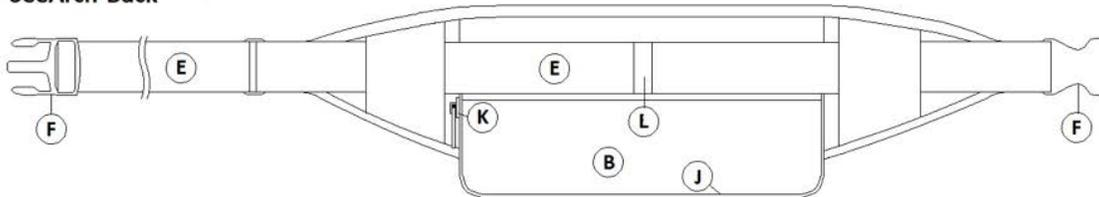

Figure 2
- a. Fully open the bladder storage pouch (B) by pulling up the front pocket flap (A) of the SeeArch, exposing the bladder storage pouch (B), and pulling the bladder storage pouch zipper (J) to the right until it reaches the slider stop.
- b. Insert the bladder into the bladder storage pouch (B) with the manual CO2 inflator (Q) under the inspection window (O) as seen in Figure 2, so the inflation pull-tab (I) will point toward the right of the wearer when the belt (E) is on. Fold the bladder flap found inside the bladder storage pouch (B) over the crossbar section (W) of the bladder and align the Velcro strips on the bladder flap and on the inside of the bladder storage pouch (B). Press the two Velcro strips together.
- c. Starting with the crossbar section (W), fold the bladder into lengths that will fit inside pouch, starting closest to the crossbar section (W) and working up using the previous folds as guidance. Be sure to have the manual CO2 inflator (Q) be on the outside of the folded bladder and visible under the inspection window (O). Ensure the bladder is not twisted or wrapped around itself as that will affect the inflation.
- d. Push the inflation pull-tab (I) through the opening under the bladder storage pouch zipper slider stop, and secure by folding the inflation pull cord retaining tab (M) over the inflation pull cord (H).
- f. Carefully pull the bladder storage pouch zipper slider (K) fully to the left to reset the bladder storage pouch zipper (J). Be certain not to allow any parts of the bladder to be caught in the bladder storage pouch zipper (J). When properly repacked none of the bladder should be exposed except visually through the inspection window (O).